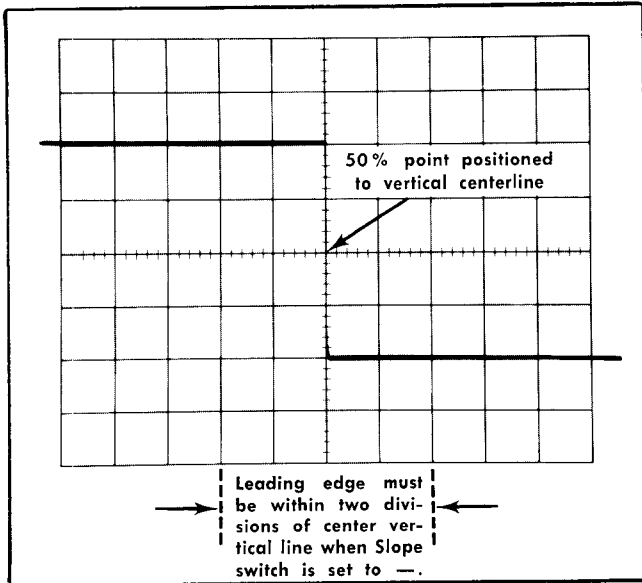

Fig. 5-18. Typical CRT display when checking calibrator duty cycle.
- g. CHECK—50% point on the rising edge is now displayed not more than two divisions from the center vertical line (indicates a duty factor of 48% to 52%; see Fig. 5-18).